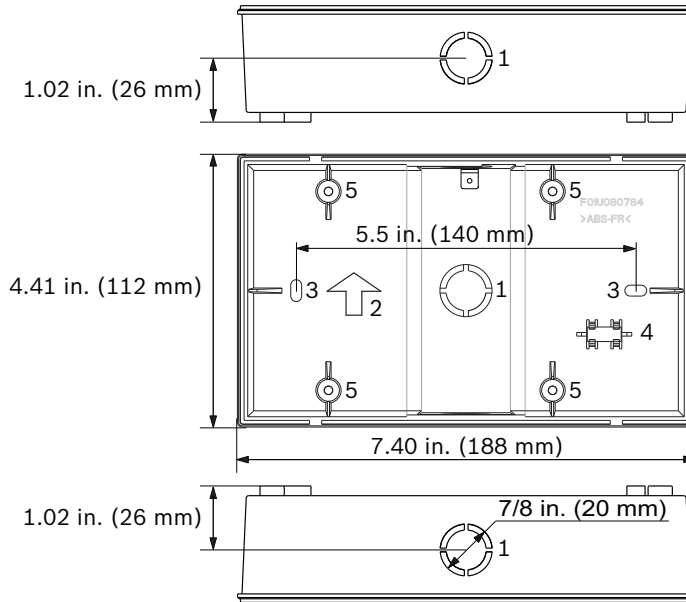

Figure 4.2 Back Box of the FMR-1000-RCMD Remote Command Center
1. The back box provides three knockouts for 1/2 in. diameter conduit connectors in the back, bottom and top side (refer to *Figure 4.2*, Item 1). To get a clean break, remove the knockout from the inside of the box.
2. Install the back box with the arrow pointing up (refer to *Figure 4.2*, Item 2).
3. Use the back box as a template to mark the location of the mounting holes (refer to *Figure 4.2*, Item 3). Provide an opening in the mounting surface for the wiring. Pre-start the screws. Do not secure the screws at this point.
4. The built-in bubble level allows you to level horizontally without extra tools when securing the base (refer to *Figure 4.2*, Item 4).
3. Bring the wiring through one of the knockouts in the annunciator's base (surface mounting) or the 3 gang electrical box (flush mounting). Refer to *Figure 4.2* on *Page 8* for wire entrance location in the back box.
5. For surface mounting with back box: Secure the base. Use the bubble level to make sure that the back box is perfectly horizontal. Refer to *Figure 4.2* on *Page 8*.